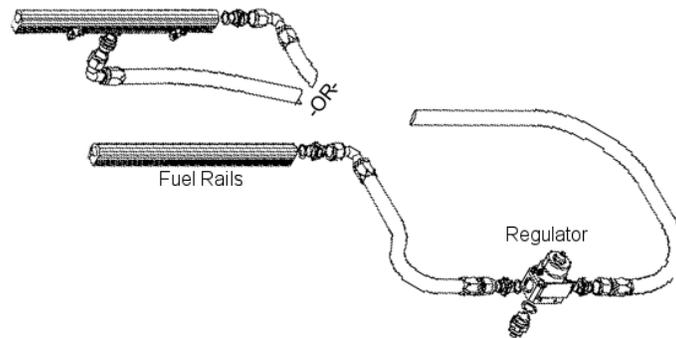

Figure 3-1
- 3-7. Starting from the fuel rails, plan a route to run an AN-08 supply line from each fuel rail to each side of the regulator, see figure 3-1. Cut the two supply lines to the determined length and install the AN-08 hose ends, as detailed in Section 4.
- 3-8. Using the above steel braided hose assemblies, connect one end to the side of the fuel pressure regulator and the other end to the fuel rails, as shown in figure 3-1, and tighten.
3-13. Using the above steel braided hose assemblies, connect one end to the Y-block and the other end to the fuel rails, as shown in figure 3-1, and tighten.